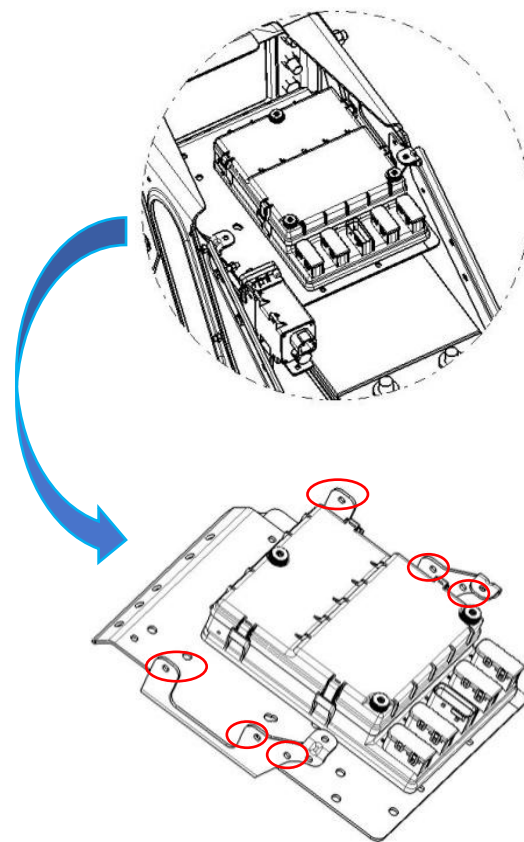

图2、Chassis electrical
Step3: Dismantle the six bolts marked in Figure 2 in order bolts and nuts.
依次拆卸图2中标注的6颗螺栓及螺母